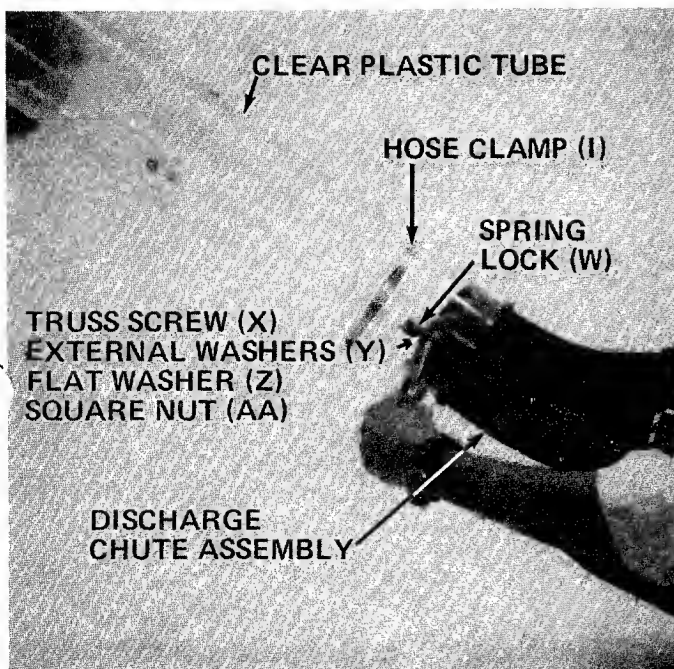

FIGURE 8
8. Place the hose clamp (I) over the end of the clear plastic tube. Slide the end of clear plastic tube over the discharge chute assembly. Place the spring lock (W) over lip of discharge chute assembly and secure to tube with truss machine screw (X), external lock (star) washers (Y), flat washer (Z) and square nut (AA). See figure 8.